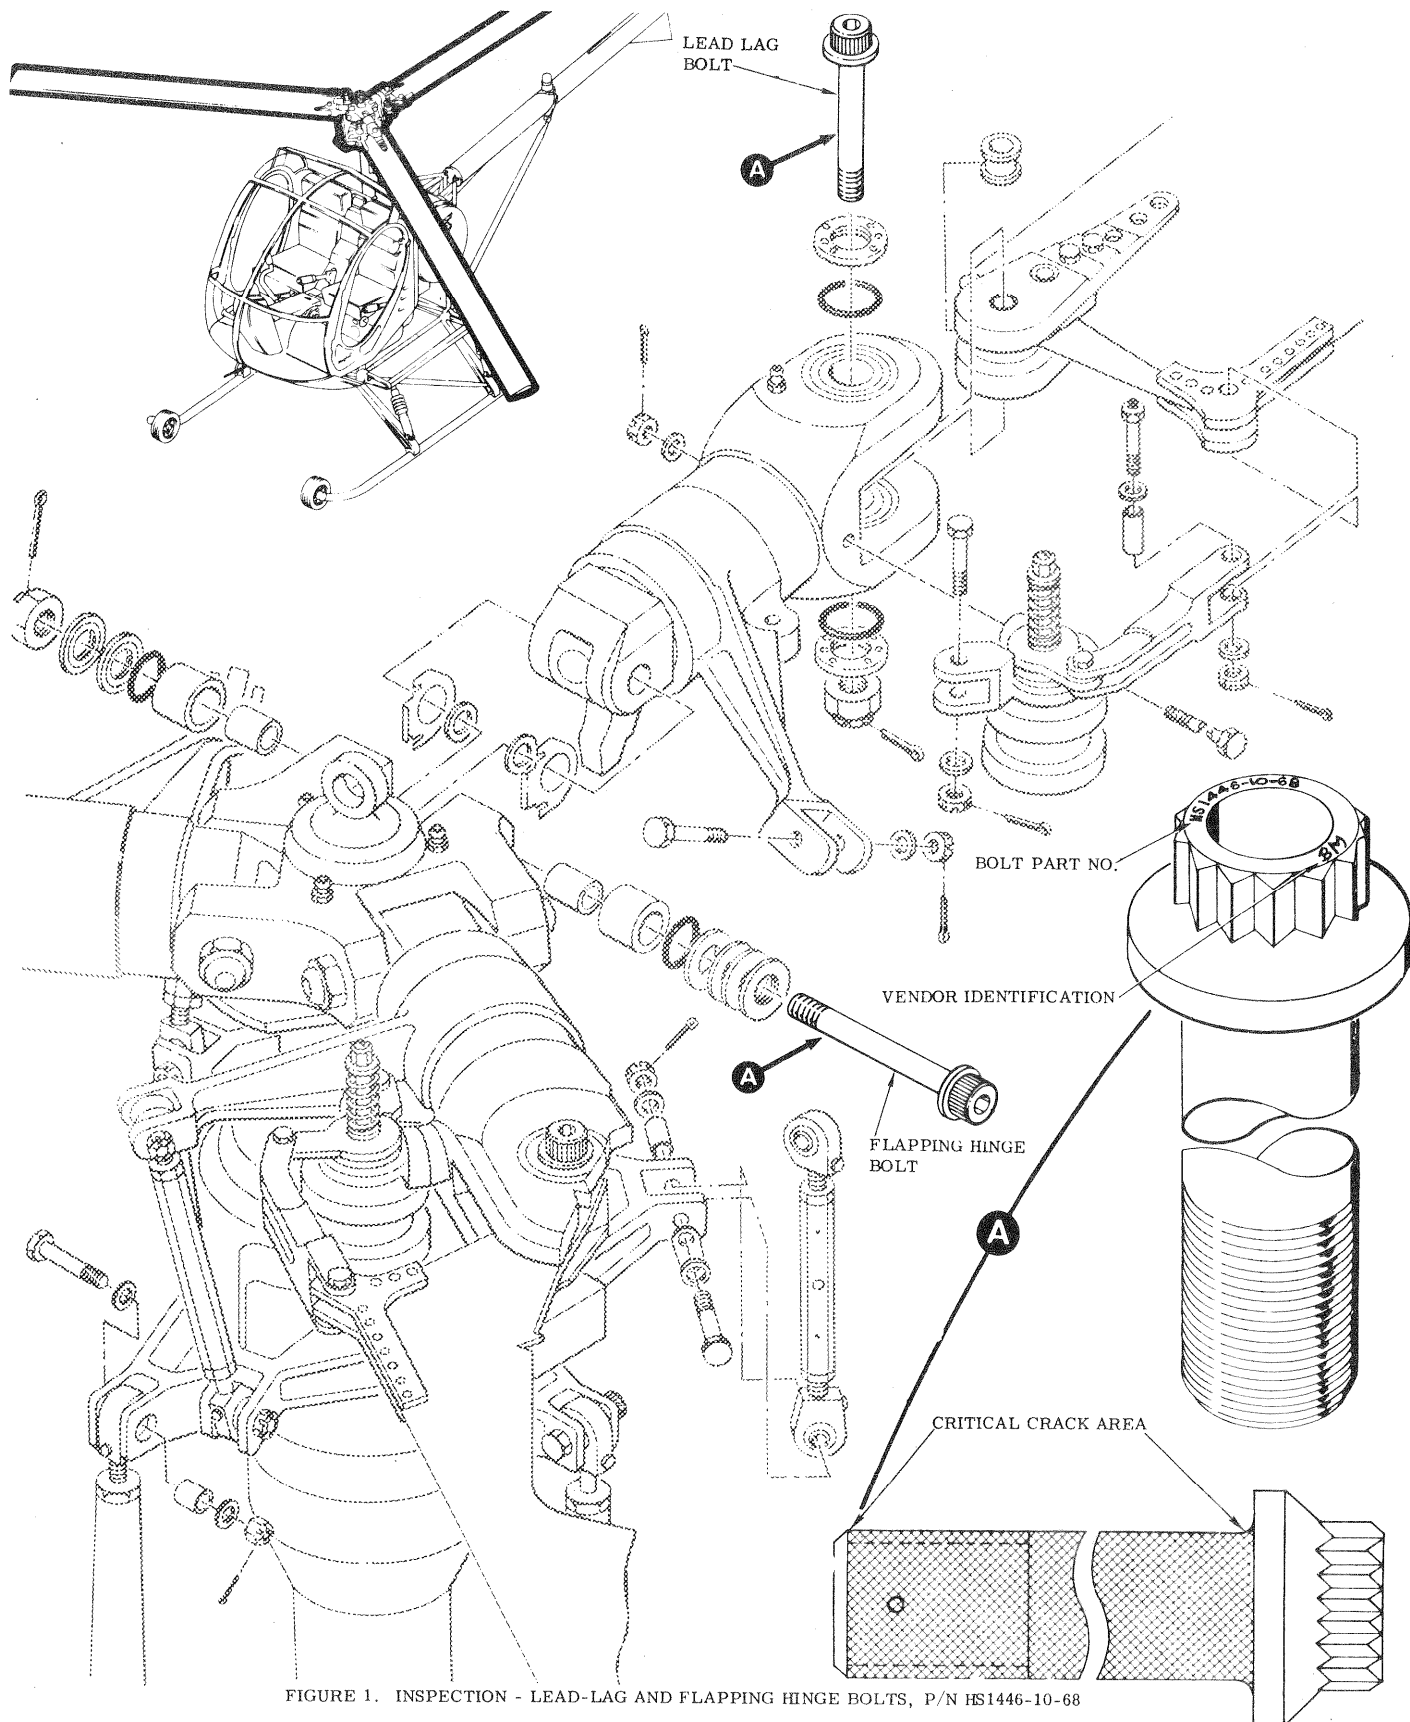

FIGURE 1. INSPECTION - LEAD-LAG AND FLAPPING HINGE BOLTS, P/N HS1446-10-68
- a. Visually inspect (6) lead lag and flapping hinge bolts (Model 269C lead lag bolts only) to determine if vendor identification BM is impression stamped on bolt head. (See figure 1)